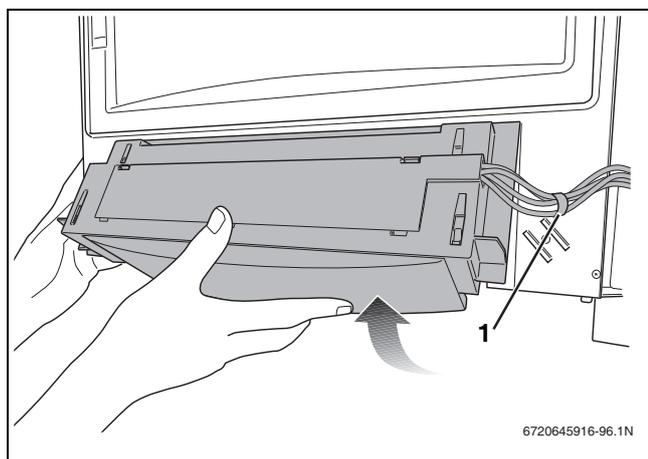

Fig. 98 Removing the control panel
- ▶ Remove the control panel(→ fig. 98).